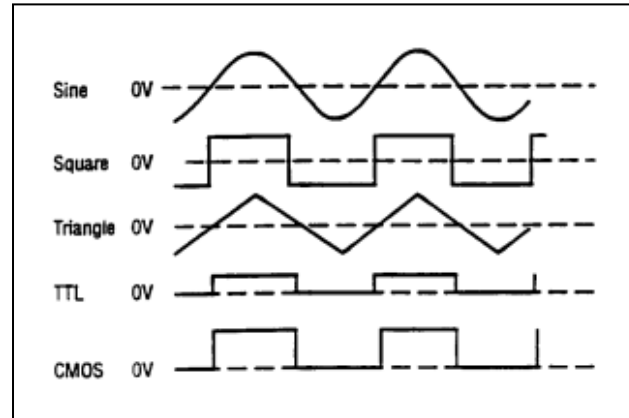

Figure 2. Output Waveform and Phase Relationship
1. Initially, verify that the **DUTY CYCLE** (14), **CMOS LEVEL** (13), **DC OFFSET** (12), **-20dB** (11) switches are in the **OUT** position (released). This will produce a symmetrical waveform unaffected by the other controls.
2. Plug the unit into an appropriate power source and turn it on by engaging the **POWER** switch (1).
3. Select the desired waveform (**SINE**, **SQUARE**, or **TRIANGLE**) by engaging one of the **FUNCTION** switches (3). Phase relationships of the waveforms are shown in Fig. 2.
4. Select the frequency of the waveform by engaging one of the **RANGE** switches (2).
5. Rotate the **FREQUENCY** control (15) to set the output frequency to the desired value. The frequency selected is available at the **OUTPUT** jack (6). In addition, a digital signal, either **TTL** or **CMOS** is available at the **TTL/CMOS** jack (7) (refer to the "TTL/CMOS OUTPUT" section of this manual).